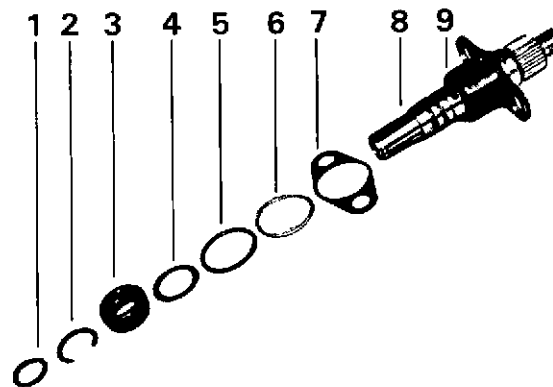
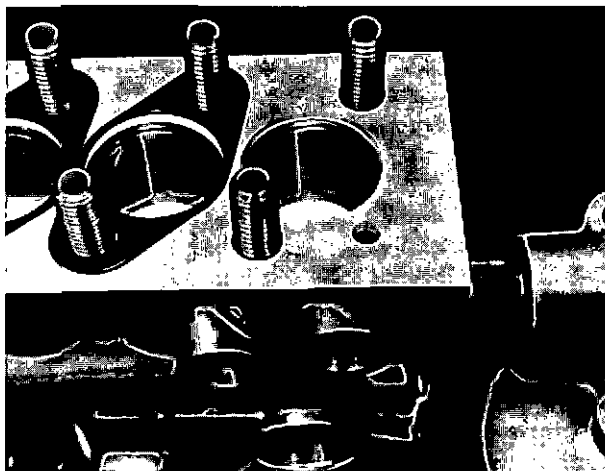

Fig. 23 Mounting components - barrel to pump casing.
Fig. 26 Fitting 'O' rings, nylon rings and phasing shims.
- (b) Refer to fig. 23 and slide washer (4) on to pump barrel (8) until it abuts against flange bushing (9); then assemble baffle sleeve (3), with its offset radial drillings away from flange bushing (9), and fit circlip (2). Finally, fit Viton ring (1) to the lower groove of the pump barrel.
Again referring to fig. 23, the 'O' ring (5), nylon ring (6) and phasing shim (7) are not fitted until the barrel/delivery valve unit is assembled to the pump housing (Operations 4 and 5).
4. Fit a greased 'O' ring, nylon ring and shim (fig. 23, Items 5, 6 and 7) to each port (fig. 26). **Note:** On pumps with numbers prefixed '626' and later the nylon ring is superseded by a steel